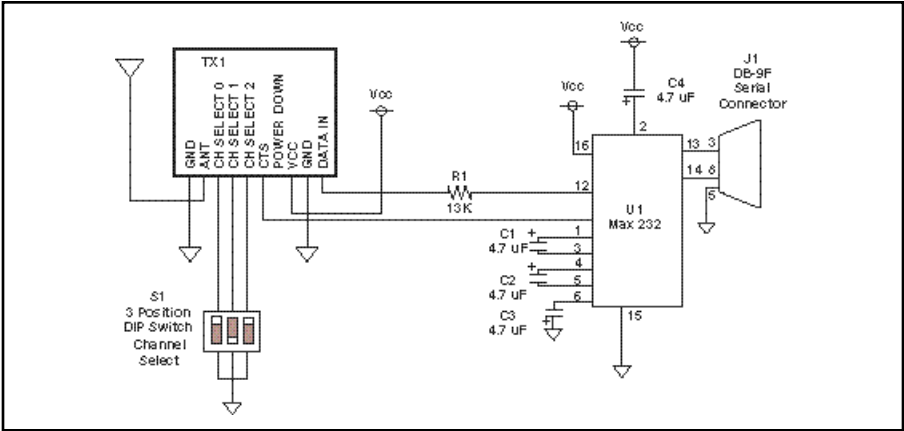

Figure 18: Typical Application: RS-232 Interface
1) If the data rate is 9600 baud or lower, the designer can simply add a series 13K resistor between the 5V source and the data input pin. This lowers the cutoff frequency of the low-pass filter, reducing the overall bandwidth of the transmitter, thus creating the 9600 baud limitation. Figure 18 shows an example of this technique.